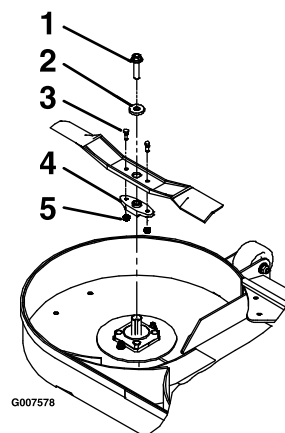

Figure 64
3. Remove the blade, washer, and blade bolt that secures the blade and blade driver (Figure 64).
4. Remove the blade driver from the existing blade (Figure 64).
1. Install the blade driver to the new blades with the shear bolts and locknuts (Figure 64).
3. Install the blade, washer, and blade bolt to the spindle shaft (Figure 64).